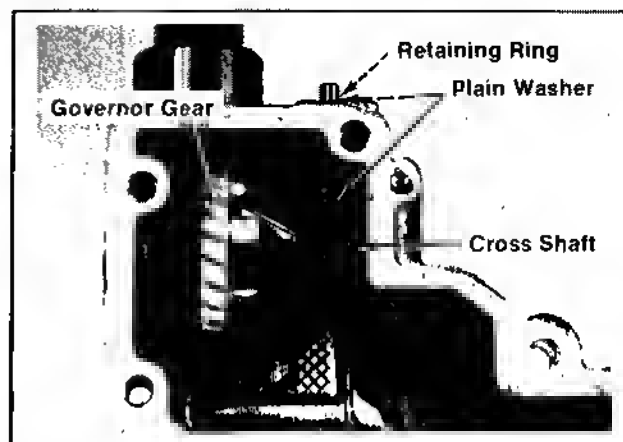

Figure 9-37. Removing Governor Gear.
2. Remove the governor gear and thrust washer from stub shaft. Refer to Figure 9-37.